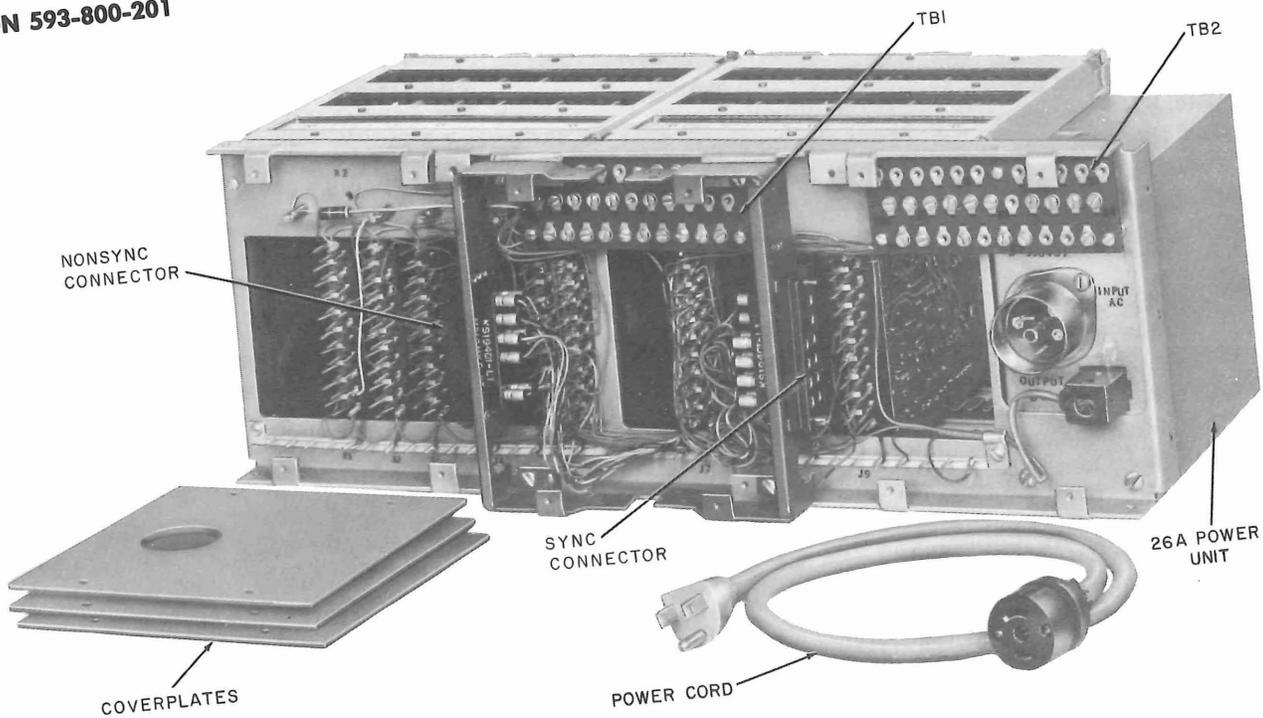

Fig. 5—Data Set 303-Type—Rear View
3.05 Location of the interface connectors and terminal blocks is shown in Fig. 5 for DS 303-type. Wiring options for DS 303-type are
Note 1: See Fig. 5 for option terminal boards on DS 303-type.